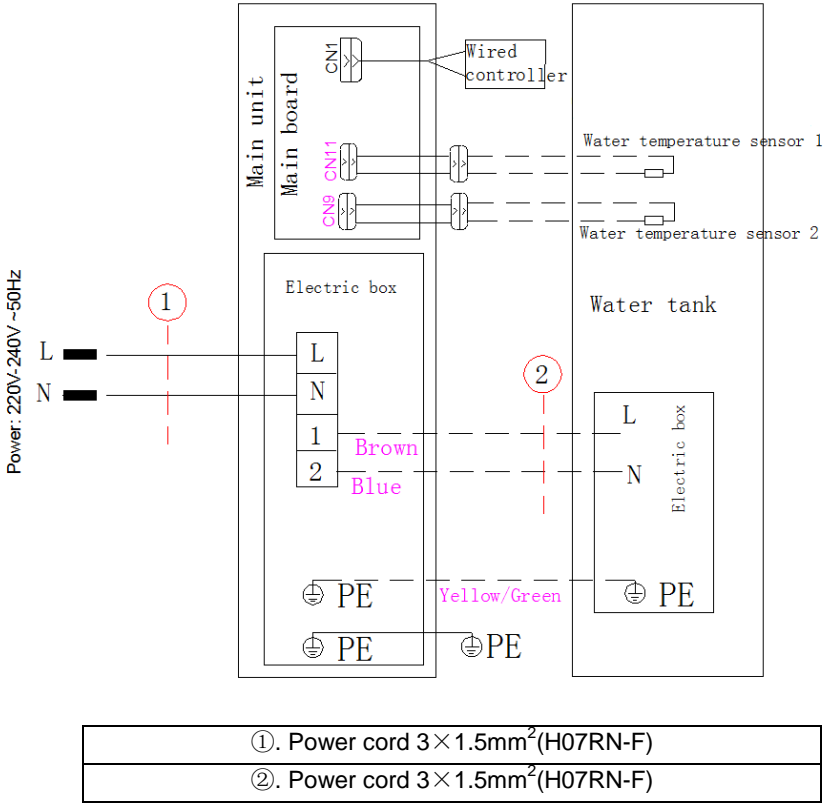

Figure 9-1 External wiring for SWH-35ERA mapping SWH-200IRA
(1) Unscrew the screw on the connection box cover on the right side panel of the main unit to open the connection box cover. Figure 9-1 shows the external wiring.